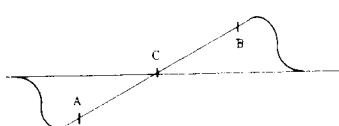

Fig. 8
- (2) At the article 1 - (3). Adjust so that it will be just as S curve of Fig. 8 with the secondary core (upper) of T107. And by the primary core (lower) of the T107, adjust it so that the gain will be max. In this case, A and B will be at the symmetry position of C, and adjust it as the straight line can be gained.